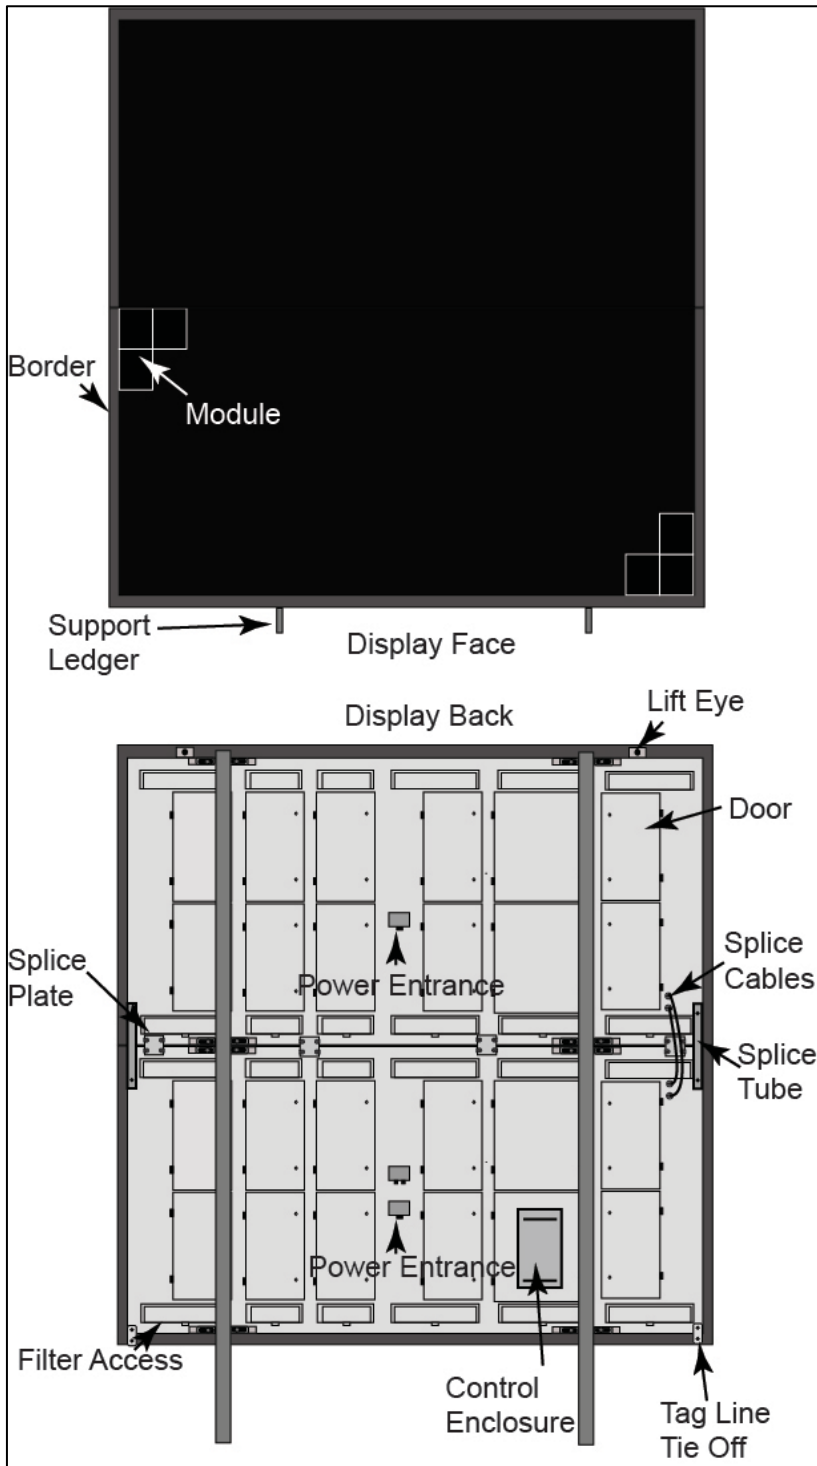

Figure 3: 4100 Series Display Installation Component Overview
Figure 3 provides a general overview of display components. Each display is different so refer to your project specific drawings for component locations.
19. Using the section splice cable located in the installation tools box, connect the signal from the display bottom section to the display top section by connecting Signal A to Signal A and Signal B to Signal B on the back of the display. Connect the signal cables between the display sections. Refer to **Figure 3**.